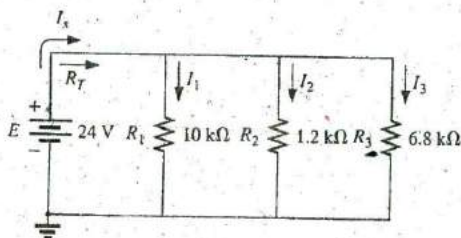

FIG. 6.81
11. Repeat the analysis of Problem 10 for the network in Fig. 6.81, constructed of standard value resistors.
18. For the network in Fig. 6.81: